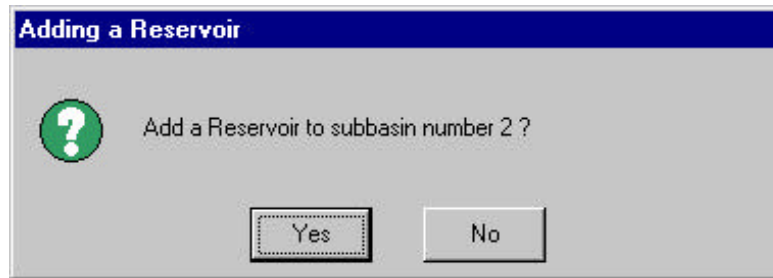

Figure 5.57
3. A prompt box will be displayed asking for verification of the reservoir placement (Figure 5.57).